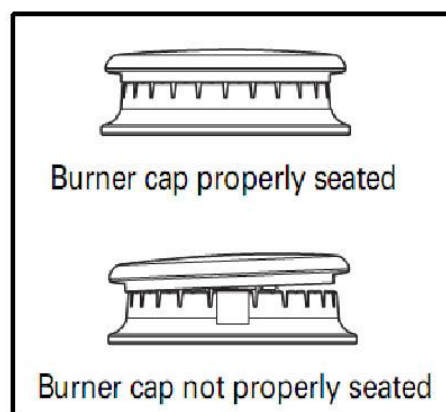

Figure 2
- Make sure each burner cap is properly aligned and level (see Figure 2).